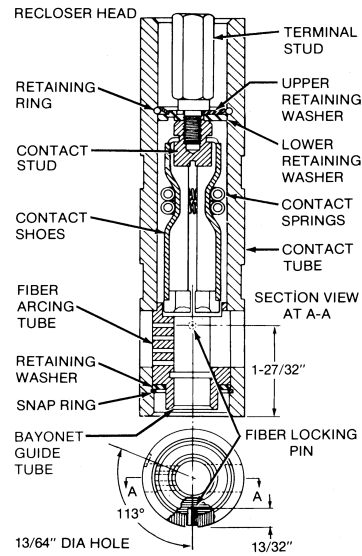

Figure 14. Cross-sectional view of exhaust tube
5. Figures 14 and 15 show cross-sectional views of stationary contact tube assemblies. To dismantle either tube, observe the following:
6. Reassemble contact tubes by reversing the procedure outlined in preceding paragraphs A, B, and C. If installing a new fiber arcing tube in an old contact tube, a hole must be drilled to accept the locking pin. Refer to Figures 14 and 15 for hole location and drill to a depth of 10 mm (13/32 in.) with a 5 mm (13/64 in.) bit.